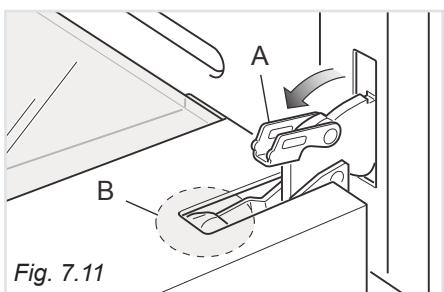
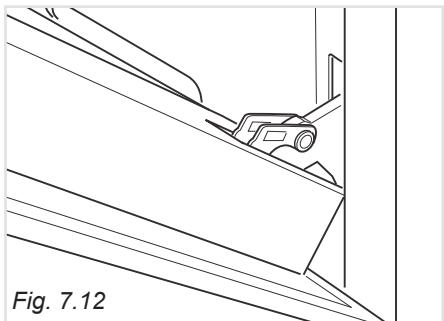

Fig. 7.11
Fig. 7.12
- Open the lever "A" completely on the left and right hinges (fig. 7.11).
- Gently close the door (fig. 7.12) until left and right hinge levers "A" are hooked to part "B" of the door (fig. 7.11).